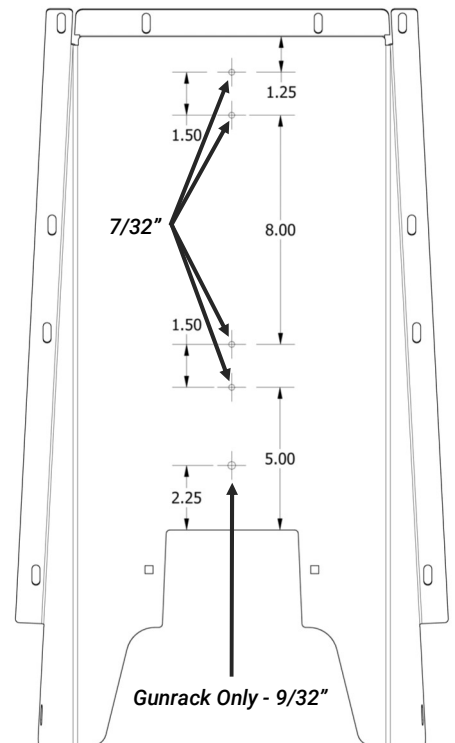

Figure 2
- A. Locate the recess panel [3REP472000], the remaining (2) small divider brackets [3DIV000000] from the Pro-Cell kit [4PAK472007], and the remaining (4) button head Torx fasteners [3X274] and (4) flange lock nuts [3X275] from the Pro-Cell hardware kit [4PAK472006].
- B. Mark (4) upper locations on the recess panel [3REP472000] as shown in Figure 2. Mark the fifth and lowest hole shown in the figure if using a Tri-Lock Partition Mount Gunrack (not included).
- D. Using a 7/32" drill bit, drill holes in the upper (4) locations. If using a Tri-Lock Partition Mount Gunrack, use a 9/32" drill bit to drill the fifth and lowest hole.